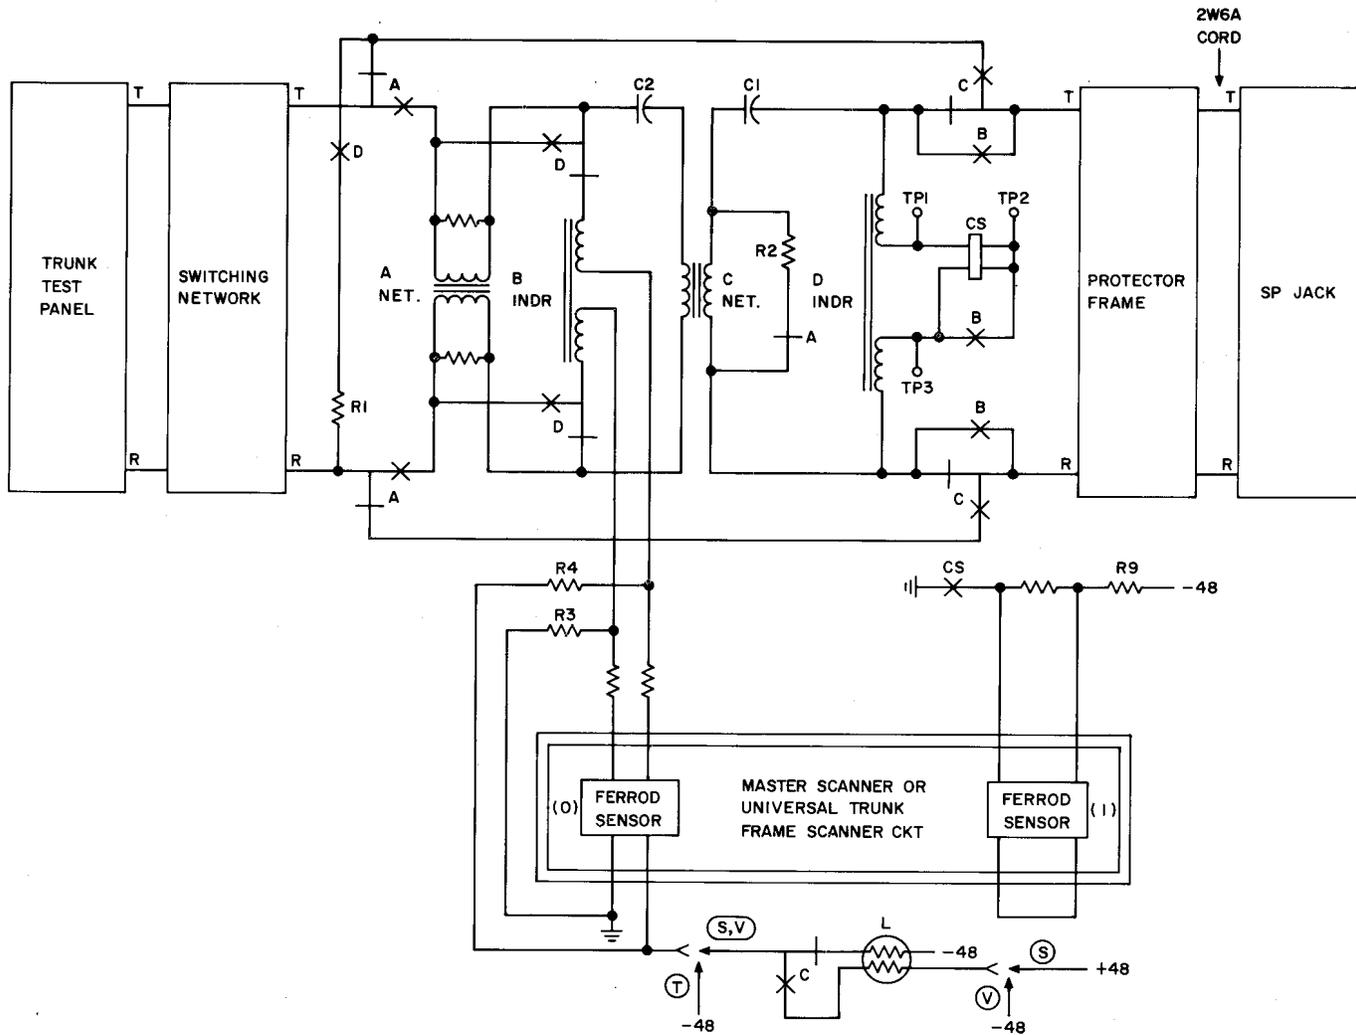

Fig. 1—Outgoing Trunk Circuit (SD-2H144)
3.04 The following is a step-by-step procedure to make the outgoing trunk circuit traffic busy and connect it to the TTP (Fig. 1).